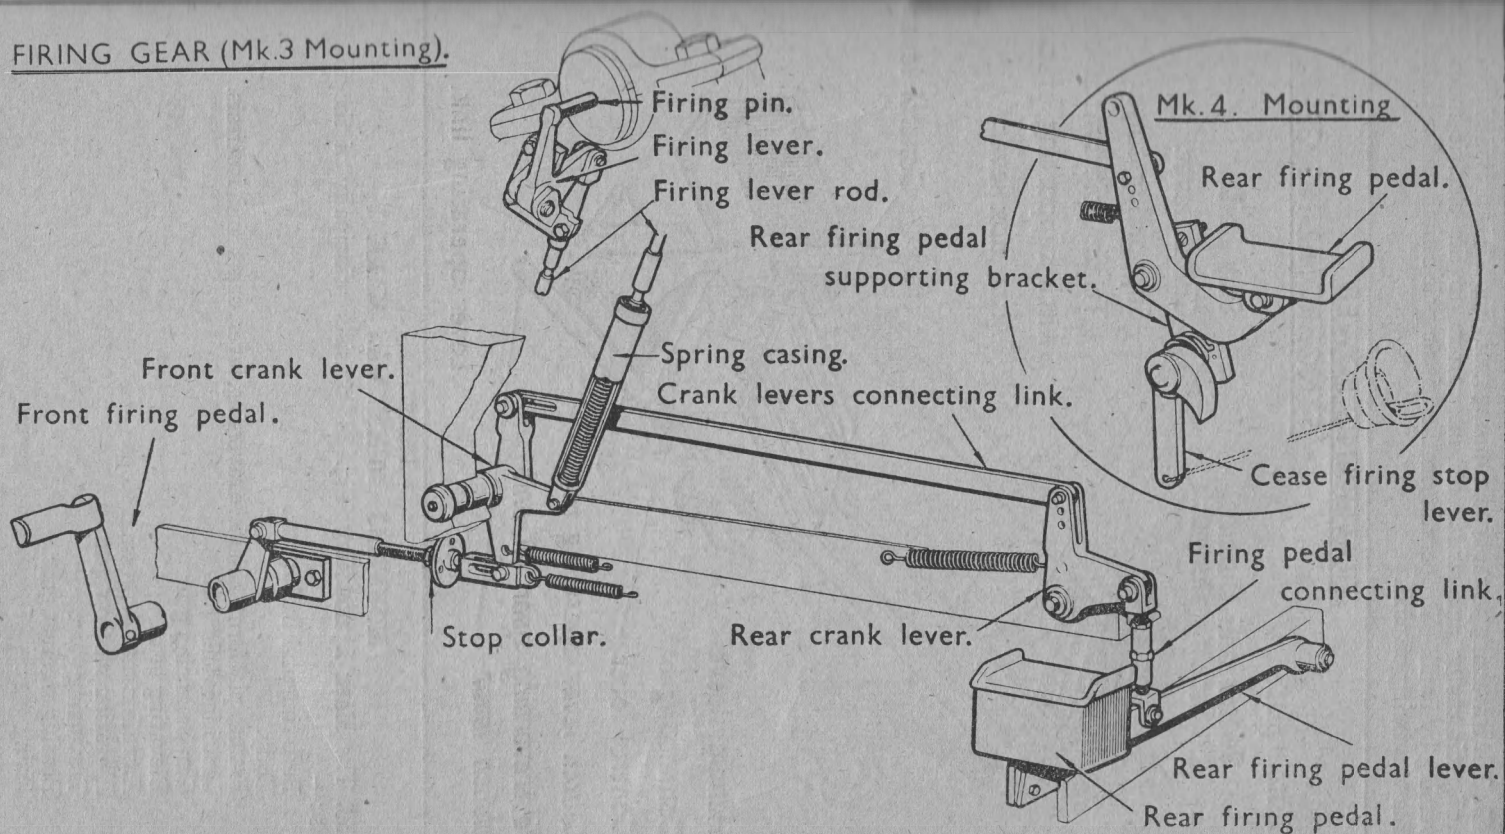

FIG. 26.
48. The **firing gear** (Fig. 26) may be operated from two positions on the left side of the mounting, one in front of the layer and the other on the loading platform, a firing pedal is provided for each position. It consists principally of two firing pedals, two crank levers, a firing lever, links, rods and springs.
The **cease fire stop** (Fig. 26) consists principally of a lever, lever axis pin, plate securing and torsional spring. It is secured to the chute supporting angle on the left side of the mounting below the firing pedal. The lanyard, when pulled, causes the cam part of the lever to make contact with the firing pedal, and prevents it being depressed. The torsional spring, mounted on the lever, returns it to the ready position when the lanyard is released.